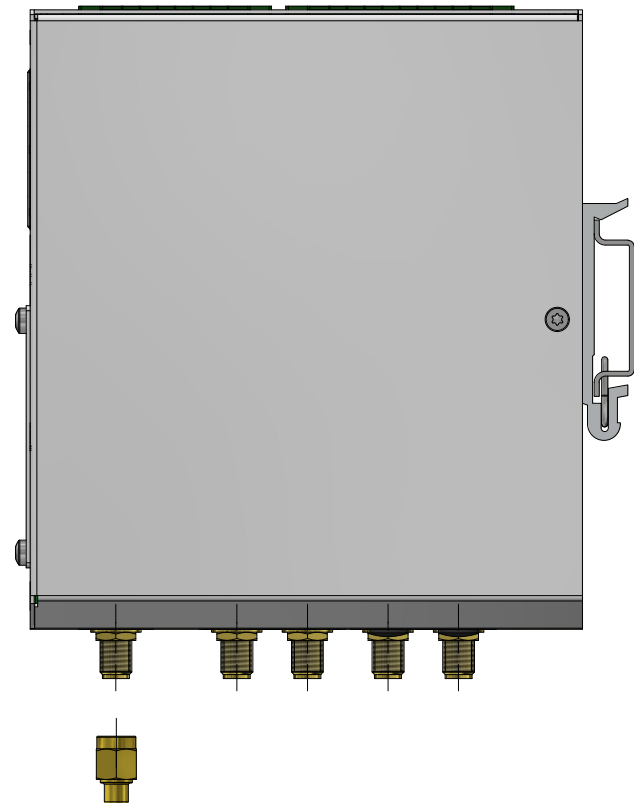

Figure 2
- 4.2 Tighten the SMA connectors | Drive type: Hex 8mm | Torque: 0.35 - 0.6 Nm (Figure 2)